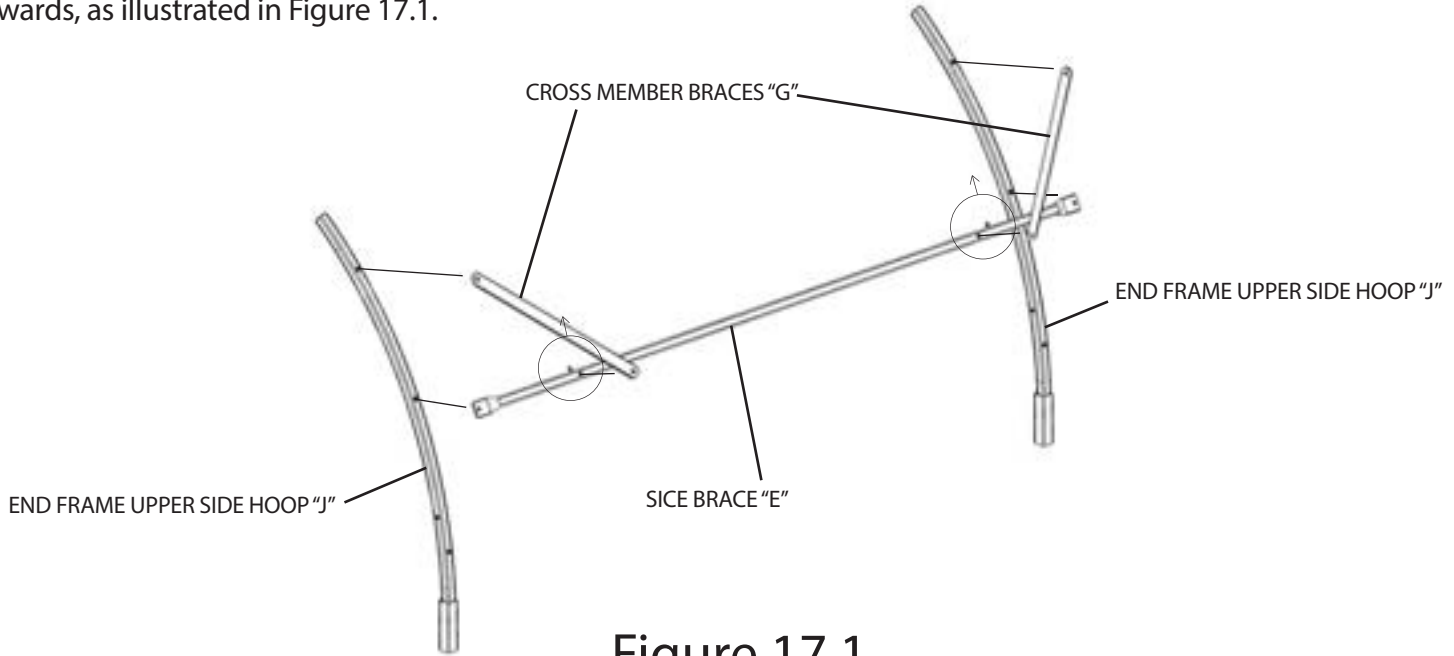

Figure 17.1
STEP 9: Locate the (5) parts that will be assembled to create the fourth section of the bale blind frame. These parts are (2) END FRAME UPPER SIDE HOOPS "J", (1) SIDE BRACE "E", and (2) CROSS MEMBER BRACES "G". Using the hardware connection in (2) places, align and fasten the hole ends in the SIDE BRACE "E" with the middle holes in the (2) END FRAME UPPER SIDE HOOPS "J", fastening with (2) Bolts and (2) Nuts. Next align the hole ends of the (2) CROSS MEMBER BRACES "G" with the corresponding holes in the SIDE BRACE "E" as well as the upper most holes in the (2) END FRAME UPPER SIDE HOOPS "J", and fasten with (4) Bolts and (4) Nuts, as illustrated in Figure 17.1.
NOTE: Step 9 assembly is similar to Step 5. On the SIDE BRACE "E", make sure the (2) Set Screws already installed are facing upwards, as illustrated in Figure 17.1.